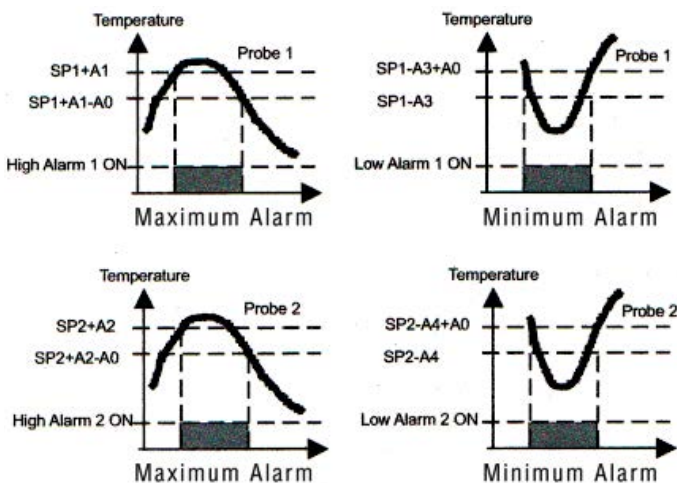

Figure 4
**A6** = Alarm probe 1 selection. (See Figure 4).
**A7** = Alarm probe 2 selection. (See Figure 4).